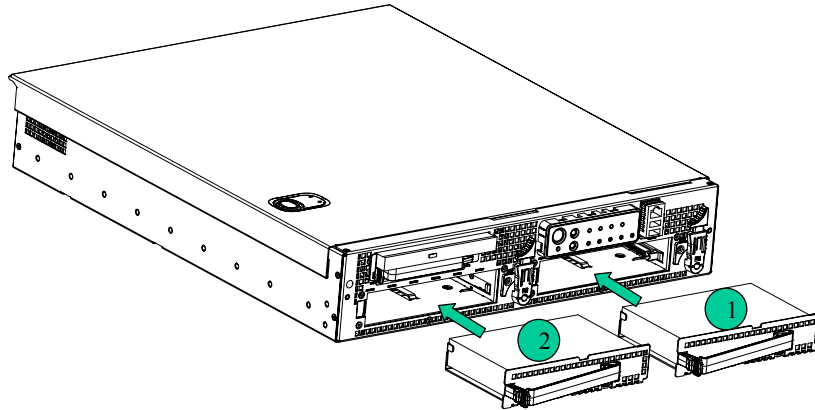

Figure 11. SCSI Hard Drive Bays
There are two hard drive bays in the system (see (1) and (2) in Figure 11). Each hard drive bay supports a tray-mounted U320 SCSI disk drive with SCA (single connector attach) interconnect. The drive tray is installed into the front of the chassis in the hard drive bay, and then secured in